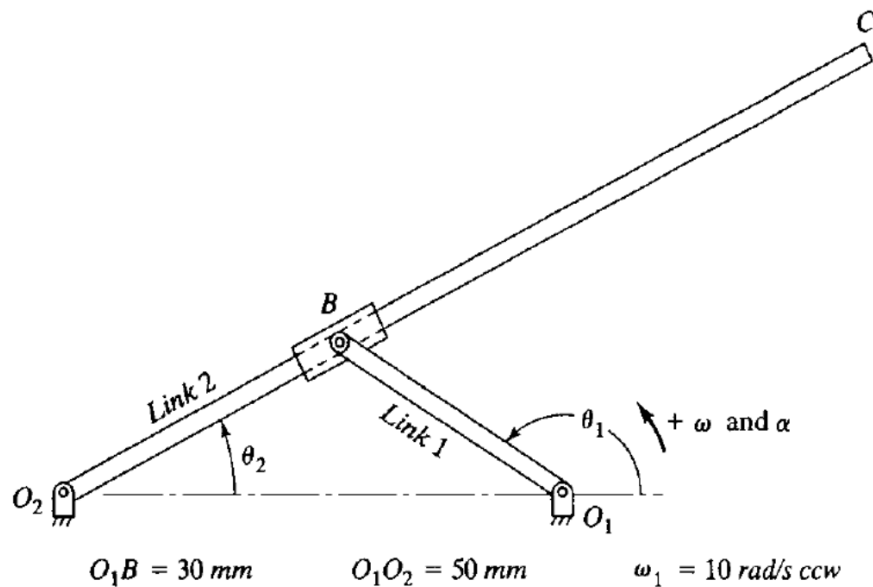

Figure 4
5. [20 points] Perform position, velocity, and acceleration analysis for the mechanism shown in Figure 4 using analytical methods. Take $\theta_1 = 20^\circ$, ${}^0\omega^1 = \omega_1 k$, ${}^0\alpha^1 = \alpha_1 k$ with $\omega_1 = 1/2 \text{ rad/s}$, and $\alpha_1 = 1 \text{ rad/s}^2$ (ignore the value of ω_1 that is provided within the figure).